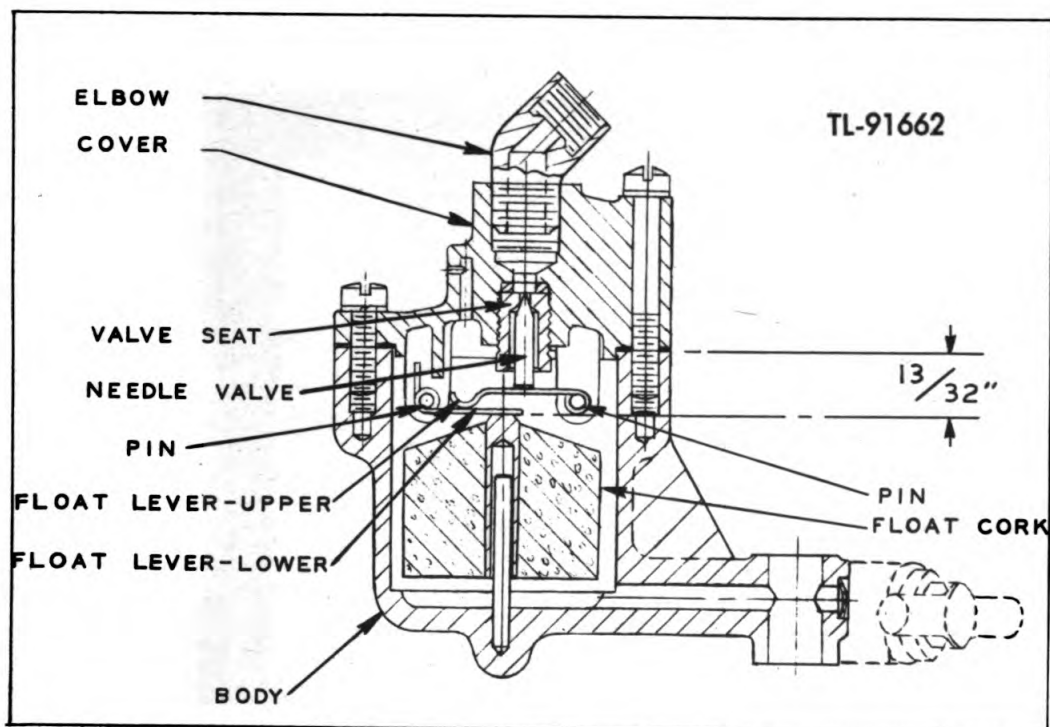

Fig. 13—Carburetor Float Assembly
(5) If the engine floods easily when starting and is not over-choked, or it is not possible to adjust the carburetor for satisfactory engine performance, the difficulty may be due to a faulty float needle valve (519), needle valve seat (523), or float cork (515). If any of these mentioned parts are not functioning properly, the level of the fuel in the float bowl will be too high, permitting the fuel to flow into the air bleed chamber. Figure 13 shows the position of parts constituting the float assembly. To determine if the needle valve and seat are seating properly, and that the float levers are not bent too high or too low, the distance from the lower lever to the face of the float bowl where the gasket (524) is located should measure $13/32$ inches, as shown on the illustration.
(6) If a new float (515) is installed, make certain it moves up and down freely on the float bowl pin.
(7) The needle valve seat (523) is replaceable by unscrewing it from float bowl cover.
j. **Air cleaner.** The air cleaner (553) serves to prevent dust and grit from entering the engine and causing wear to moving parts. If the equipment is operated under extremely severe and dusty